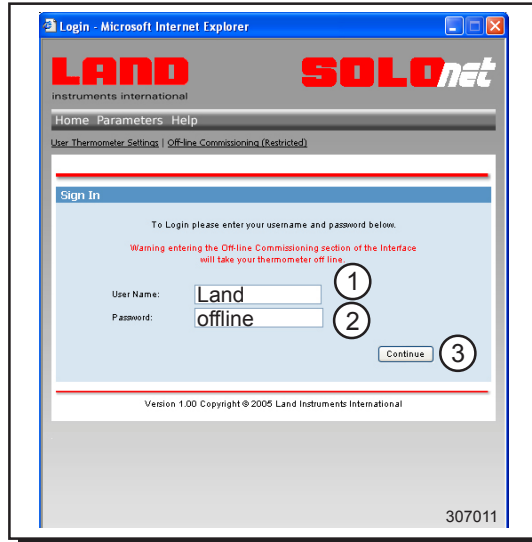
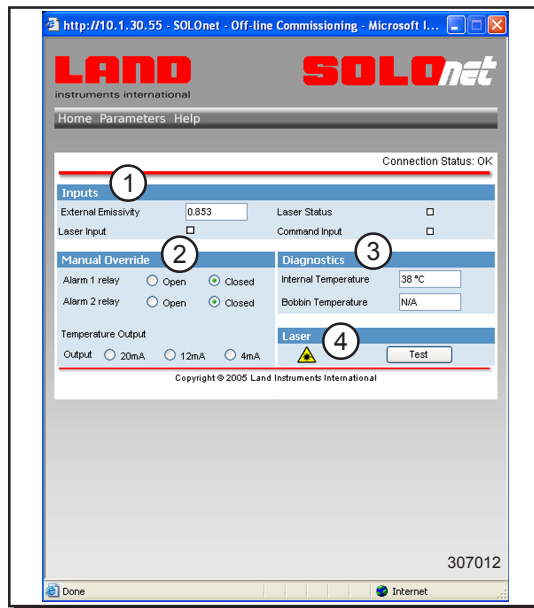

Fig. 11 - **SOLOnet** web interface 'Sign In' screen (Off-line Commissioning).
Fig. 12 - **SOLOnet** web interface 'Off-line Commissioning (Restricted)' screen
- Click to reveal the 'Sign In' screen (see Fig. 11).
- Enter *Land* in the 'User Name' box. ①
- Enter *offline* in the 'Password' box. ②
- Press 'Continue'. ③
- The 'Off-line Commissioning (Restricted)' screen appears (see Fig. 12).